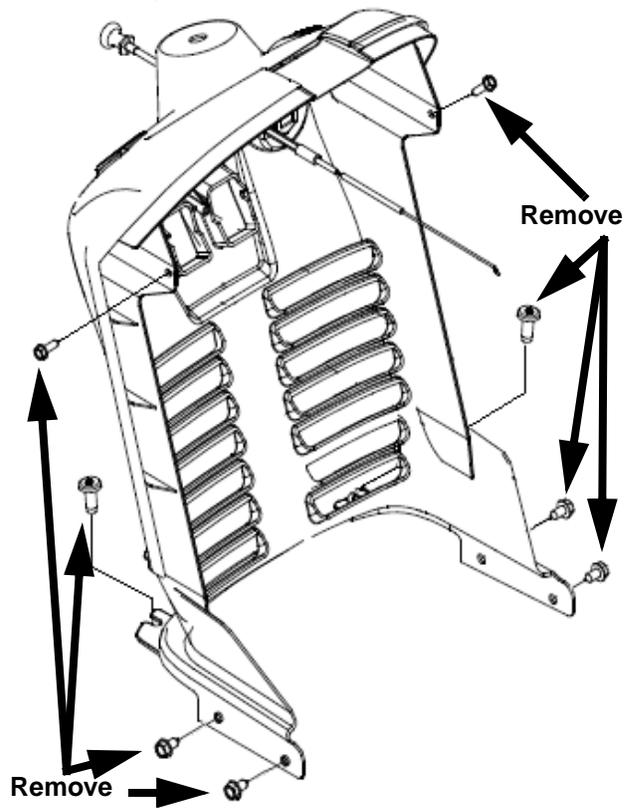

FIGURE 3
16. Remove the Throttle Control Knob from the Throttle Control. Remove the Throttle Control Assembly from the Dash by removing the two (2) Screws.
19. Remove the Screws securing the Dash to the Dash Supports. See Figure 3.